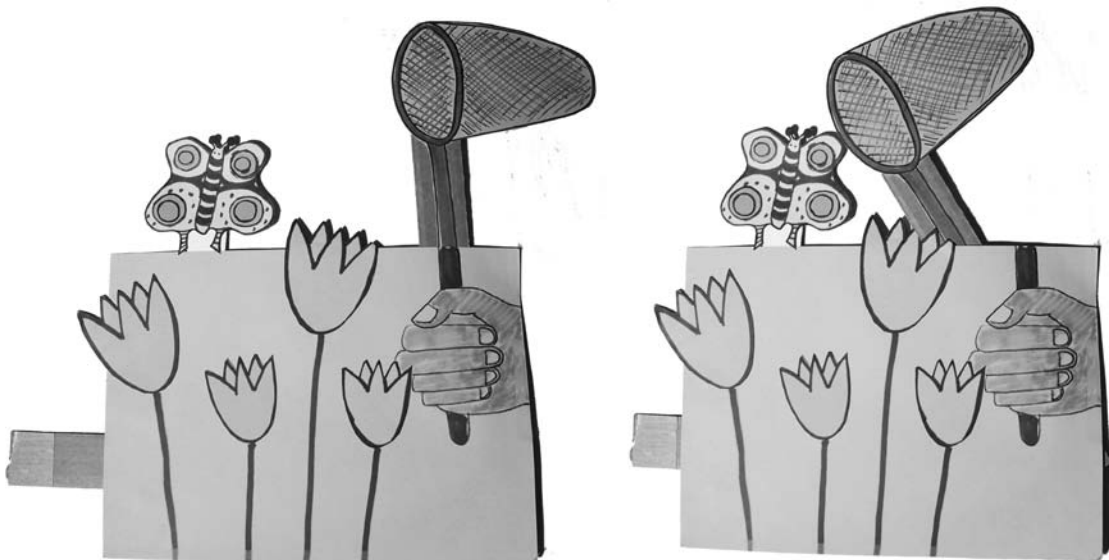

Figure 1: Butterfly MechAnimation, showing the next in the up position (left) and then about to catch the butterfly (right)
- ✂ Butterfly MechAnimation (one per class) – see Figure 1
1. **Demonstrate** the Butterfly MechAnimation to the whole class. See Figure 1.